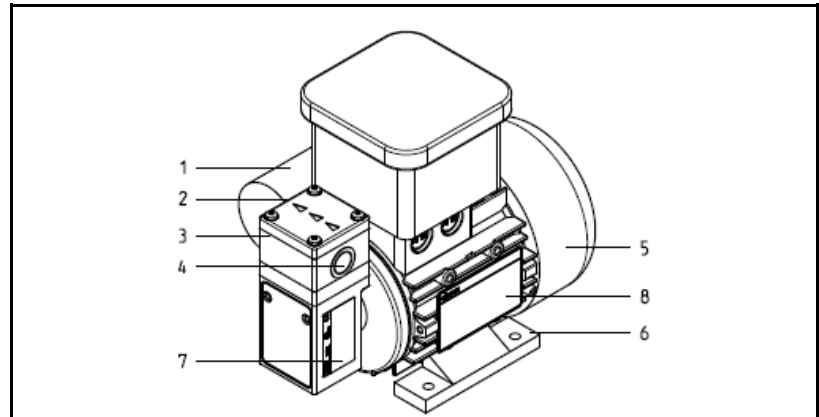

Fig. 1: Diaphragm liquid pump
* The pump head (Fig. 1) comprises a connecting plate and an intermediate plate